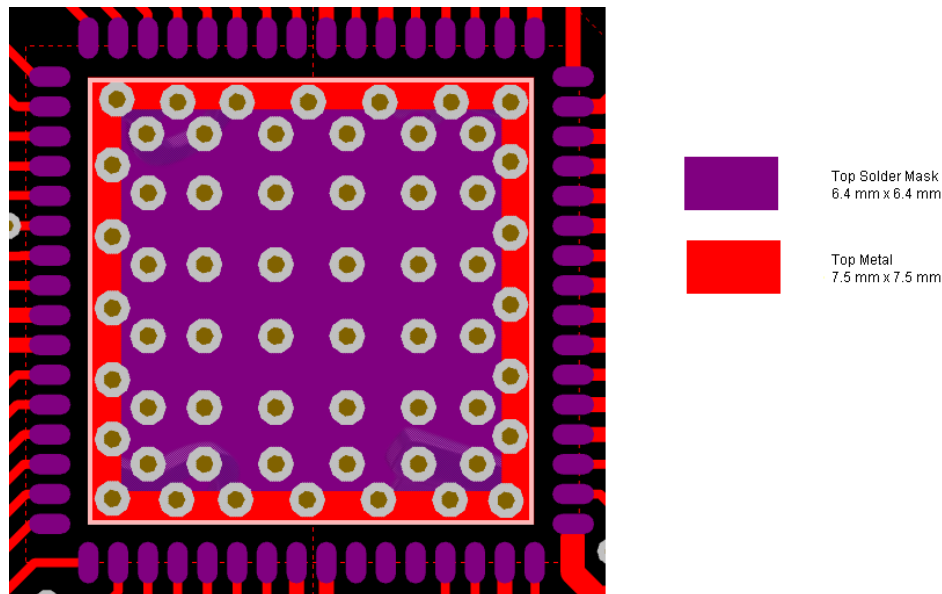

Figure 15. Top Metal and Solder Mask (Reduced Mask Area)
- Figure 15 shows solder paste split into smaller blocks to avoid component lifting while soldering or reflow.